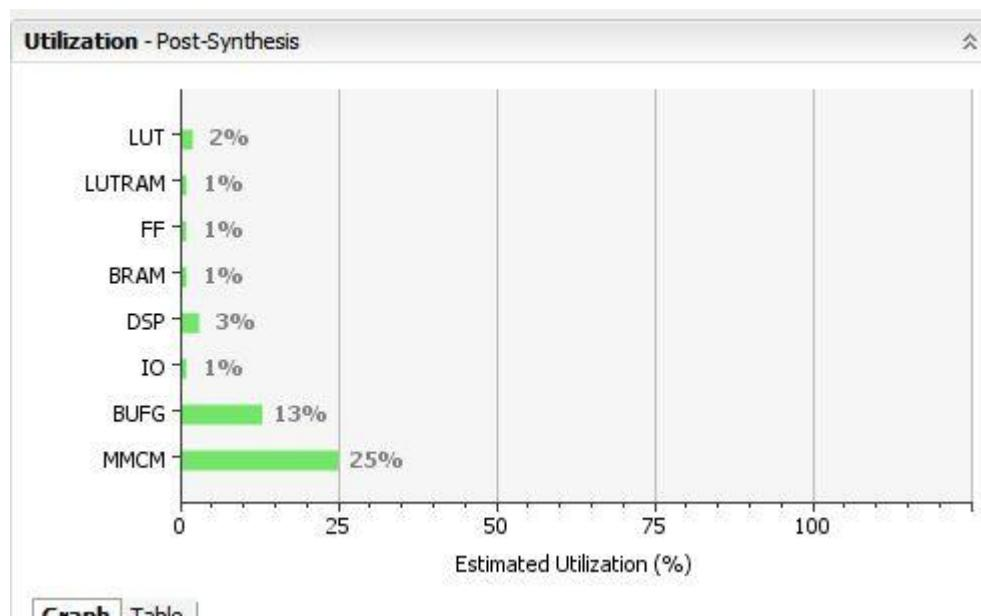

Figure 43: Hardware Utilization: Graphical Form
- e. We can see **Hardware Utilization** post synthesis in both Graphical and Tabular form as shown in figure 43 and 44 respectively.